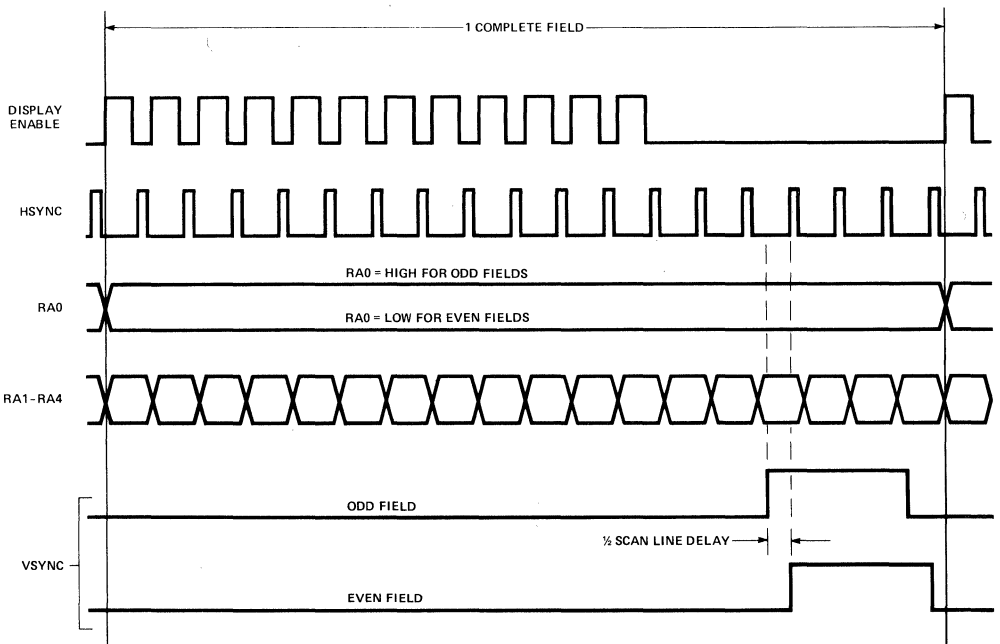

Figure 12. Interlace-Sync-and-Video Mode Timing
c) Interlaced Sync and Video Mode. This mode is used to double the character density on the screen by displaying the even lines in even fields and the odd lines in odd fields. As in the Interlace-Sync mode, the VSYNC position is delayed in alternate display fields. In addition, the address generation is altered. Figure 12 illustrates the timing.